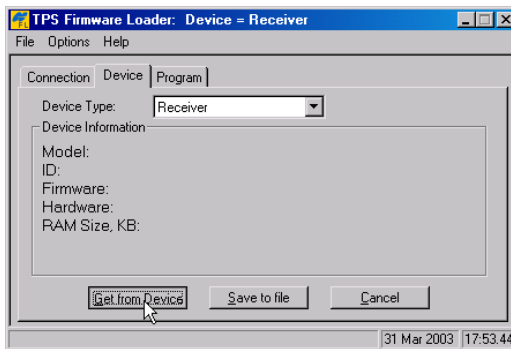

Figure 5-19. Set Device Type
1. In FLoader, click the **Device** tab and set the *Device Type* as “Receiver.” Click **Get from Device** for device information (Figure 5-19).